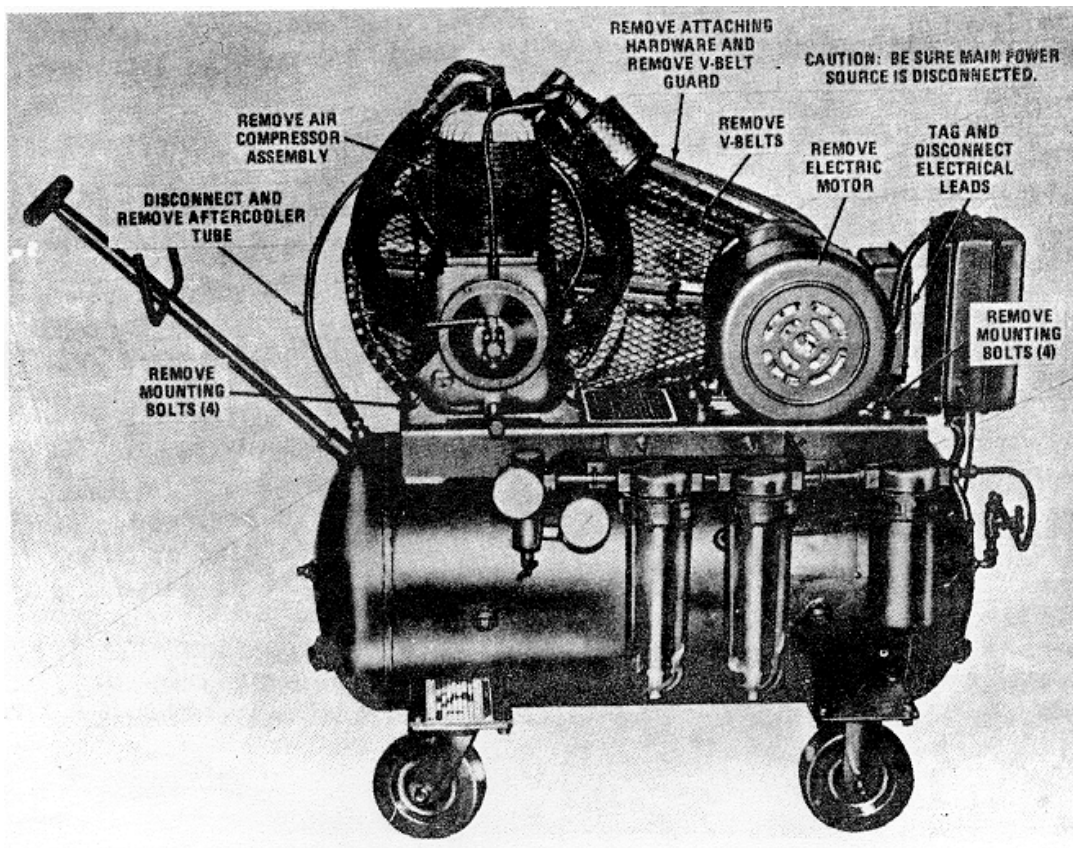

Figure 11. Electric motor and compressor assembly, removal and installation.
2. Installation. Install the electric motor as instructed on figure 11.
1. Removal. Remove the electric motor a instructed on figure 11.
1. Removal. Remove the compressor assembly as instructed on figure 11.
2. Installation. Install the compressor assembly as instructed on figure 11.